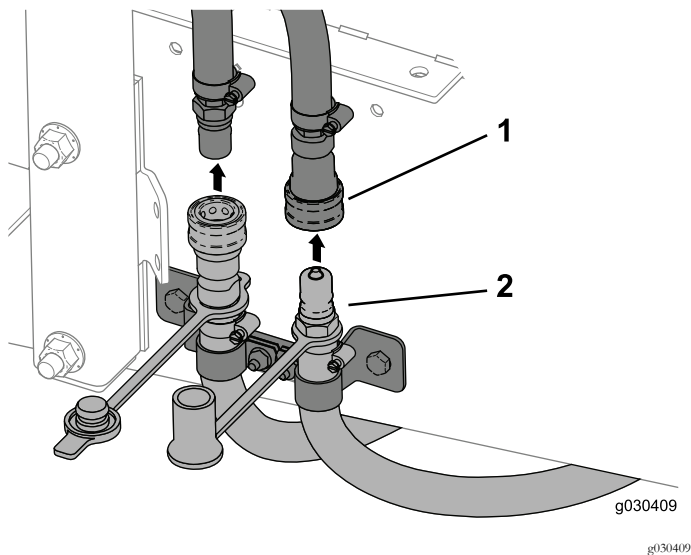

Figure 63
2. Disconnect the heater hoses (Figure 63).